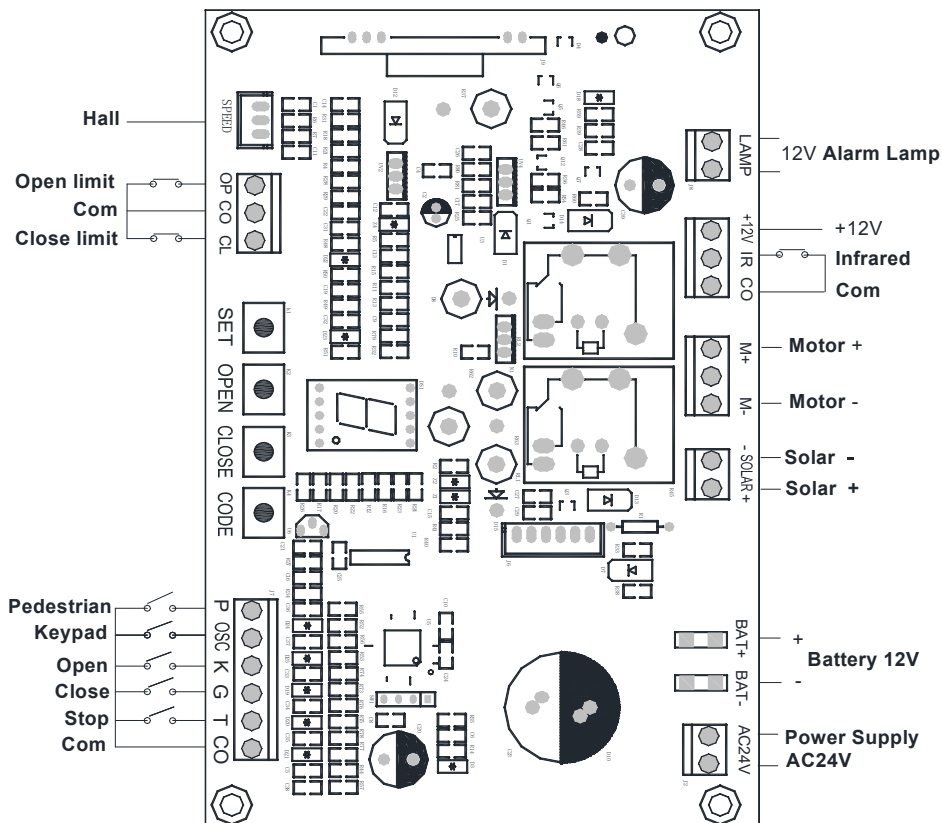

Fig.6 Control board Diagram
1. Press and hold **SET** (see Fig.6 control board), release the button until '1' indicated on the LED display.